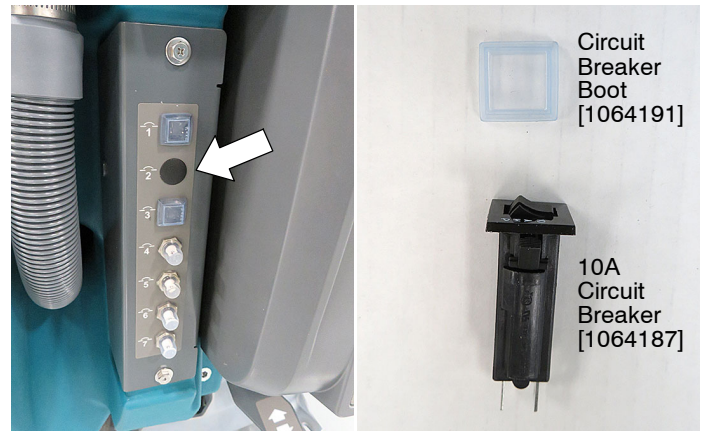

Fig. 33
5. T600e Models Only: Remove the circuit breaker panel and install the ec-H2O 10A circuit breaker with boot into the CB-2 location as shown (Figure 33).